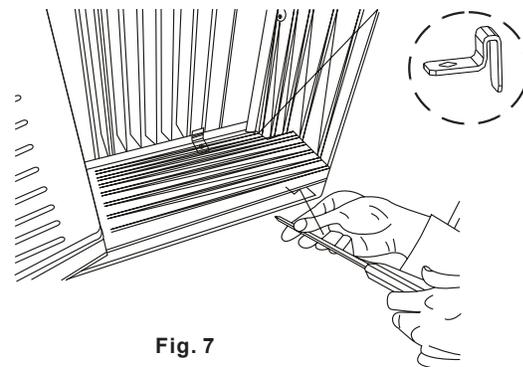

Fig. 7
- A. Place the frame lock between the frame extensions and the window sill as shown in Fig. 7. Drive $3/4"$ (19 mm) or $1/2"$ (12.7 mm) locking screws through the frame lock and into the sill.